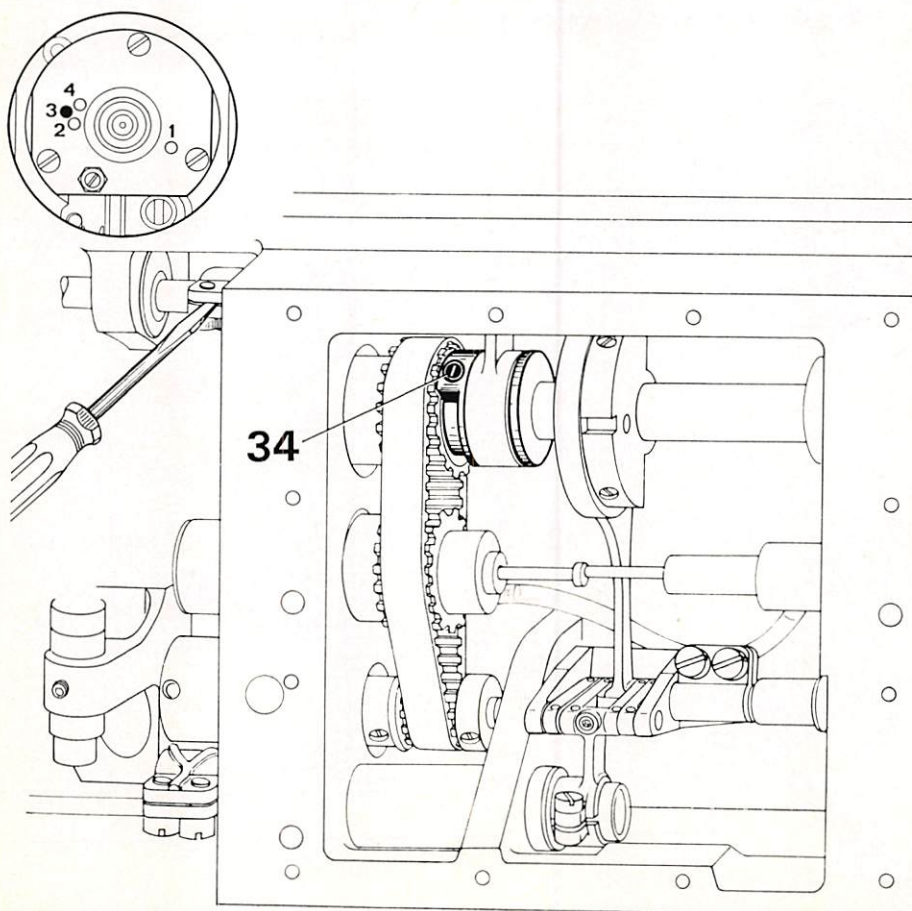

Fig. 15
12. Adjusting the Feed Lifting Motion (Fig. 15)